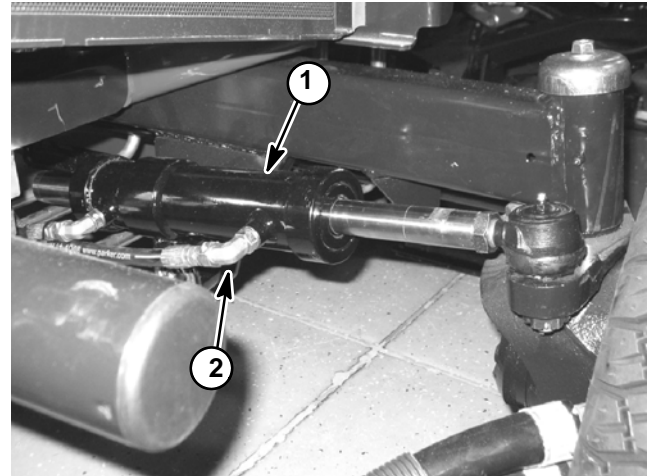

Figure 60
4. Thoroughly clean the area around the hydraulic hose at the rod end of the steering cylinder (Fig. 60).